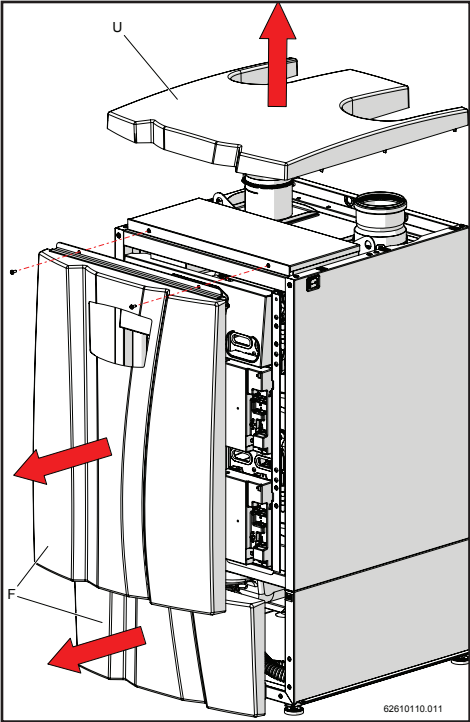

Figure 15-4
- 2.- Remove the boiler's upper and lower front covers "F" and the top cover "U", as shown in figure 15-4.